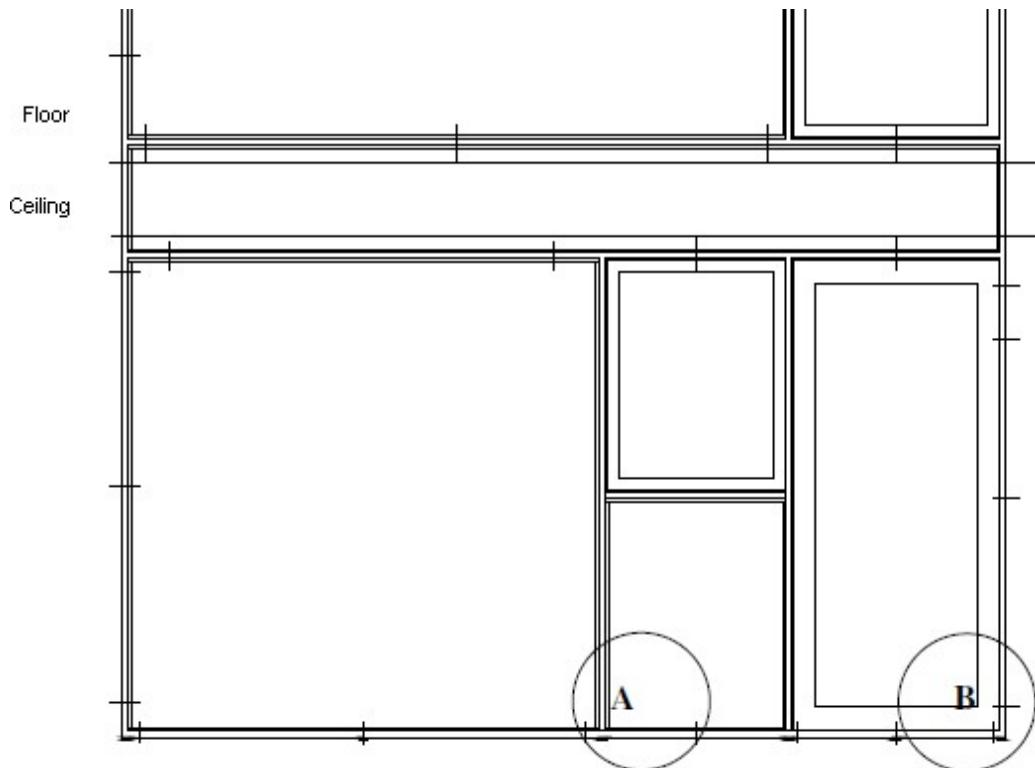

Figure 1. Typical frame fixing points – max 900mm centers
**When attaching window and door elements, please note:** blocking up and fixing must be carried out with the EU directions as a minimum standard, i.e. never more than 900mm centers between fixing points – always under or close to bearing mullions or transoms and always under door sills etc. (A and B), see Figure 1.